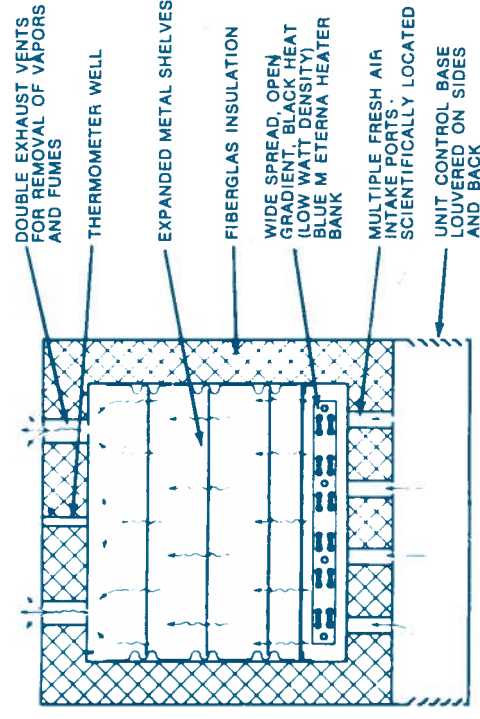

Figure 2
F. INTAKE AND EXHAUST VENTS provide for flow of air through oven. Exhaust vents are adjustable to vary flow of air, (See Figure 2). Exhaust vents are normally closed, which allows most efficient operation. There are some operations which benefit from opening vents, i.e., venting of vapors formed during tests; providing slow cool-down; and to provide ducts for electrical connections to load. See Section VII.
(See Figure 2). Normally, exhaust vents should be left closed. This will provide quicker run up to operating temperature, and more economical use. However, there are three circumstances when opening vents is recommended.